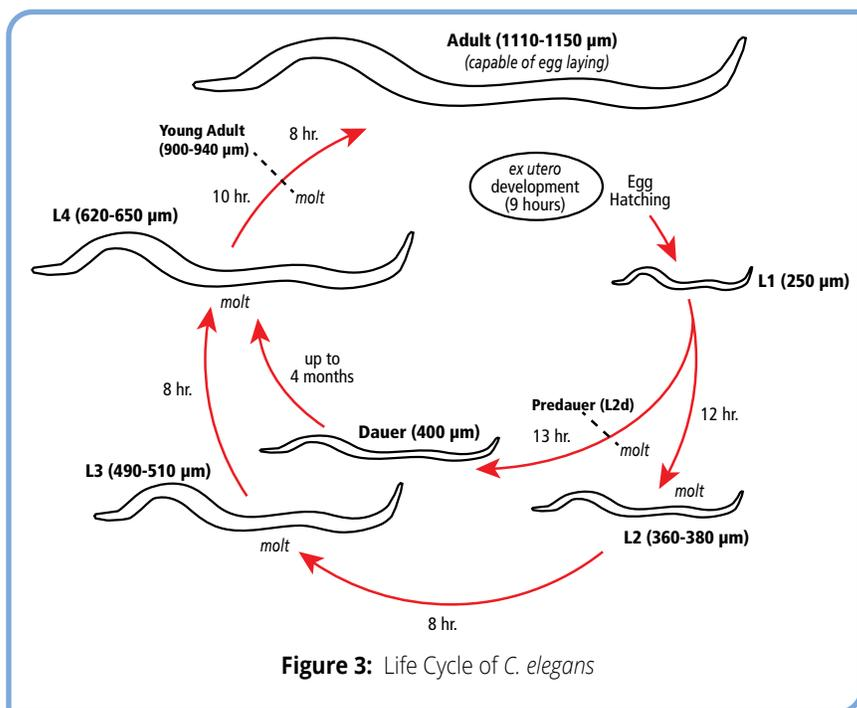

Figure 3: Life Cycle of *C. elegans*
C. elegans develop from embryo to adult in four days, allowing for rapid studies in the laboratory (Figure 3). The worms are grown on agar plates or in liquid culture and they feed on *E. coli*. After being laid, the worm embryo will develop for approximately 14 hours before hatching. Juvenile worms progress through four larval stages (L1-L4) over the next two days, increasing in size with each stage. After the fourth larval molt (L4), the worms are reproductively mature, meaning that they can be used for further genetic studies. Adults will live for 2-3 weeks, over which time they gradually age and lose vigor.